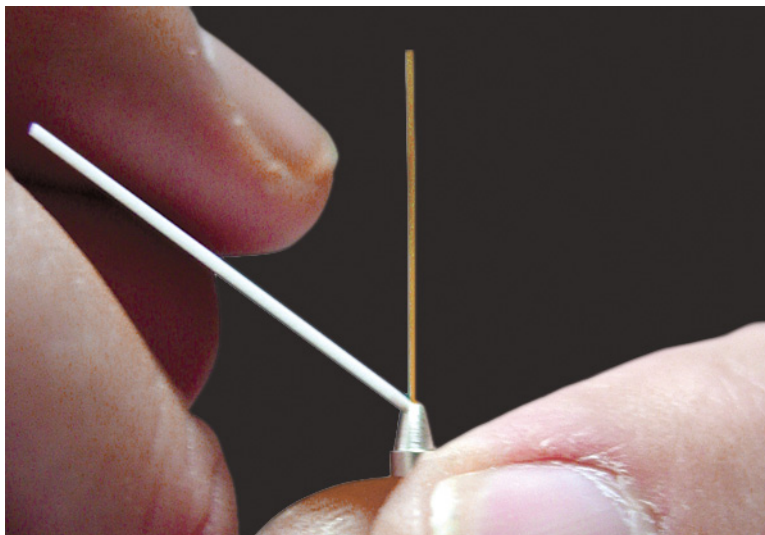

Figure 7 Ceramic column cutter and ferrule
- 5 Using a ceramic column cutter, trim the tubing at the small end of the ferrule leaving approximately 0.3 mm of tubing extending beyond the ferrule (Figure 7).